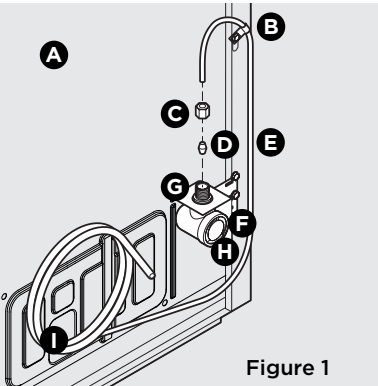
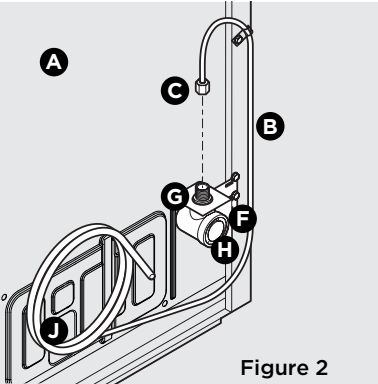

Figure 1
Figure 2
4. If you use **copper tubing** - Slide the brass compression nut and then the ferrule (sleeve) onto the water supply line. Push the water supply line into the water valve inlet as far as it will go (1/4"/6.4 mm). Slide the ferrule (sleeve) into the valve inlet and finger tighten the compression nut onto the valve. Tighten another half turn with a wrench; DO NOT overtighten. See Figure 1.
If you use **braided flexible stainless steel tubing** - The nut is already assembled on the tubing. Slide the nut onto the valve inlet and finger tighten the nut onto valve. Tighten another half turn with a wrench; DO NOT overtighten. See Figure 2.
B	Steel Clamp (Fig. 1: 1/4"; Fig. 2: 1/2")